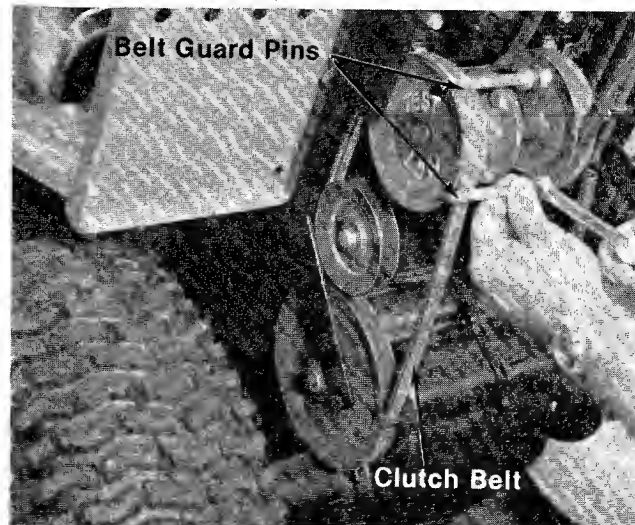

FIGURE 20.
4. Remove the two belt guard pins on the pulley assembly. See figure 20.